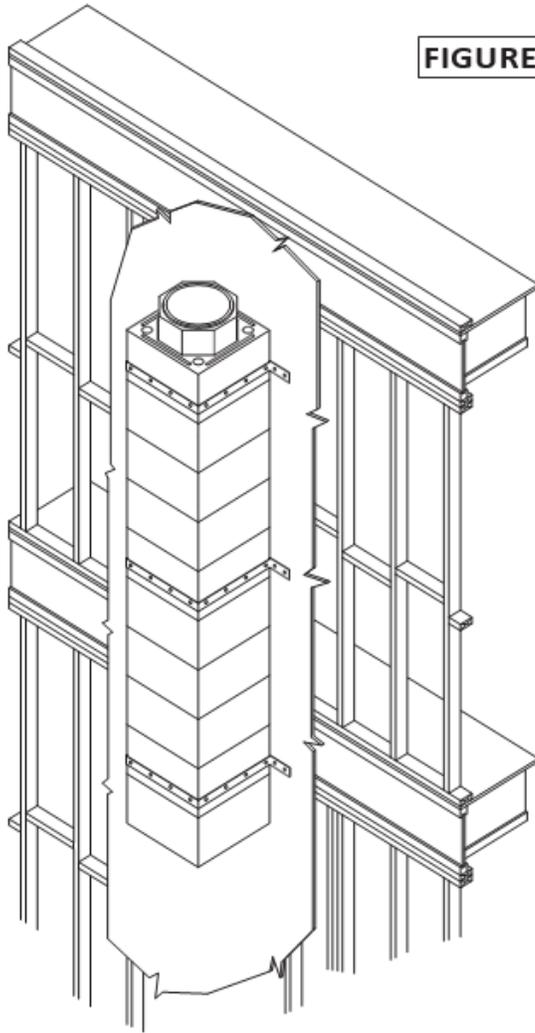

FIGURE 32
Next, fold the strap around the three exposed sides of the outer casing. Connect the strap to each of the three outer casing faces with two (2) one and one-half inch (1-1/2") long masonry anchors, such as "Tapcon" or "Titen" screws. Fasten the strap back to the structural wall with two (2) three-inch (3") #8 (minimum) wood screws or masonry screws, as appropriate (**Figure 32**).